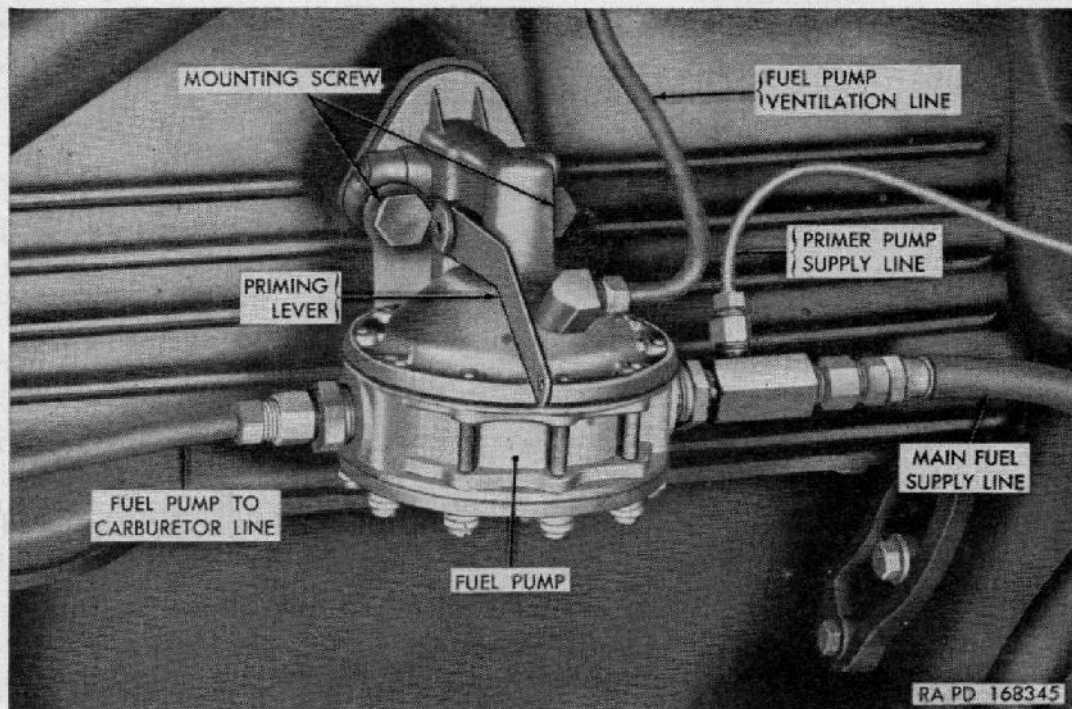

Figure 59. Fuel pump—installed.
- (7) *Fuel pump*. The fuel pump, mounted on left side of crankcase (fig. 59), is a diaphragm type, mechanically operated from camshaft. The pump is equipped with hand-operated priming lever which may be used to pump fuel into carburetor whenever carburetor bowl is empty.
(fig. 59)
- (1) *Pressure test.* Disconnect fuel pump-to-carburetor line (fig. 59) at fuel pump and install pressure gage on outlet side of fuel pump. Fuel-pump pressure should be between 4 and 5 psi with the engine operating at 1,600 to 1,800 rpm. If pressure is within specification, proceed with capacity test.
- (2) *Capacity test.* Disconnect fuel pump-to-carburetor line (fig. 59) at carburetor and attach a suitable bleeder hose to fuel-pump line. With outlet of bleeder hose at carburetor level or slightly higher, flow of fuel should be at least one pint in 45 seconds of operation of engine at idling speed (450 rpm).
b. **REMOVAL** (fig. 59). Disconnect main fuel supply line, fuel-pump ventilation line, and fuel pump-to-carburetor line at fuel pump. Remove two cap screws holding fuel pump to engine. Remove fuel pump and discard gasket.
c. **INSTALLATION** (fig. 59). Place pump on engine, using a new gasket. Install two cap screws. Connect main fuel line, fuel pump ventilation line, and fuel pump-to-carburetor line at fuel pump.